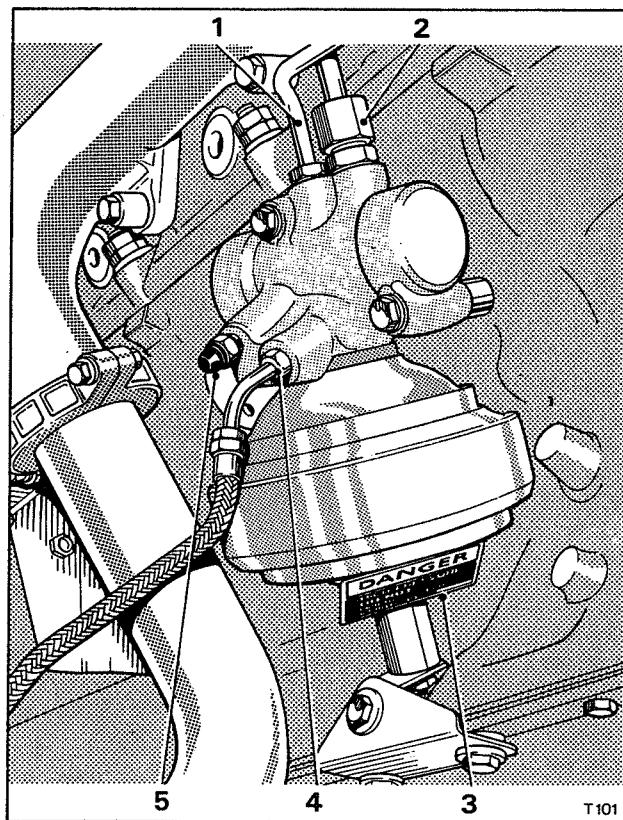

Fig. G10 Front hydraulic accumulator
2. Unscrew the worm drive clip on the fluid return hose, (see Figs. G10 and G11) clamp the hose to prevent fluid flow and withdraw it off the connecting pipe. Blank off the hose to prevent loss of fluid.